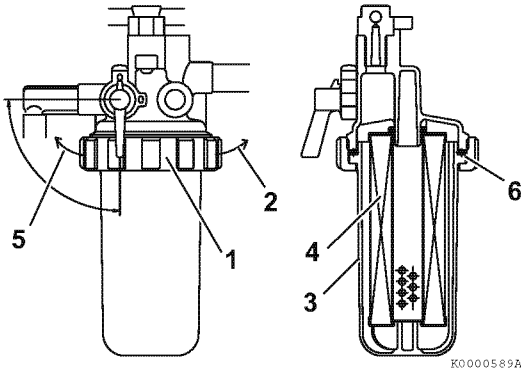

Figure 15
3. Turn the retaining ring (1, **Figure 15**) to the left (5, **Figure 15**).
4. Carefully remove the cup (3, **Figure 15**). Pour the fuel into an approved container and dispose of waste properly. Hold the bottom of the cup with a shop towel to prevent the fuel from dripping. Wipe up any spills immediately.
5. Remove the fuel filter (4, **Figure 15**) by pulling it down.
8. Check the condition of the O-ring (6, **Figure 15**). Replace if necessary.
9. Install the cup to the mounting flange and turn the retaining ring (1, **Figure 15**) to the right (2, **Figure 15**). Hand-tighten only.